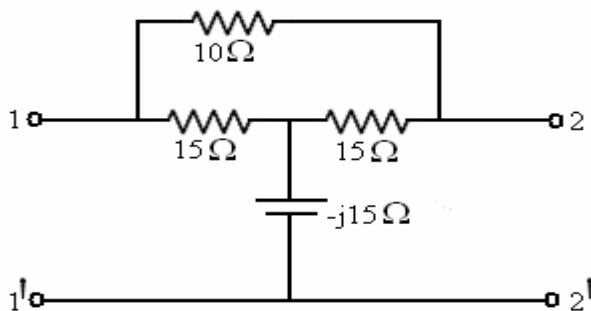

Figure. 3
2. Determine the transmission parameters and hence determine the short circuit admittance parameters for the below circuit (Figure.3). [15]